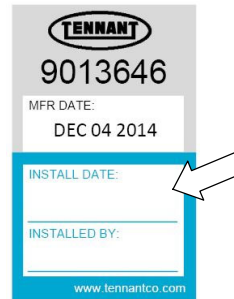

FIG. 94
4. Fill in the installation date on the new cartridge label (Figure 94).